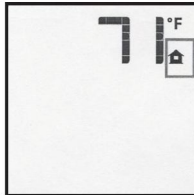

Figure 11 - Remote Control Displaying Room Temperature
1. Press the ON/OFF button on the transmitter. The transmitter LCD display will only show the room temperature and icon (see Figure 11). The receiver disconnects and will turn off the burner. Depending upon the system model (IPI or CPI), the pilot may shut off (IPI model) or remain lit (CPI model) and the main burner turns off. A single “beep” from the receiver will confirm the command.